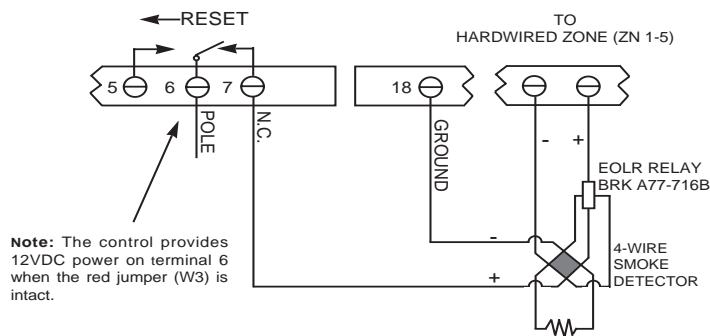

Figure 8: Wiring the auxiliary relay output for 4-wire smoke detector power usage.
- **4-Wire Smoke Detector Reset (*34 = 2)**: Momentary (6 second) activation at second entry of User Code + OFF sequence which interrupts power to 4-wire smoke detectors connected to hard-wired zones (zones 1-5), allowing the detectors to be reset following an alarm . Power to 4-wire smoke detectors should be wired to the auxiliary relay as shown in Figure 8.